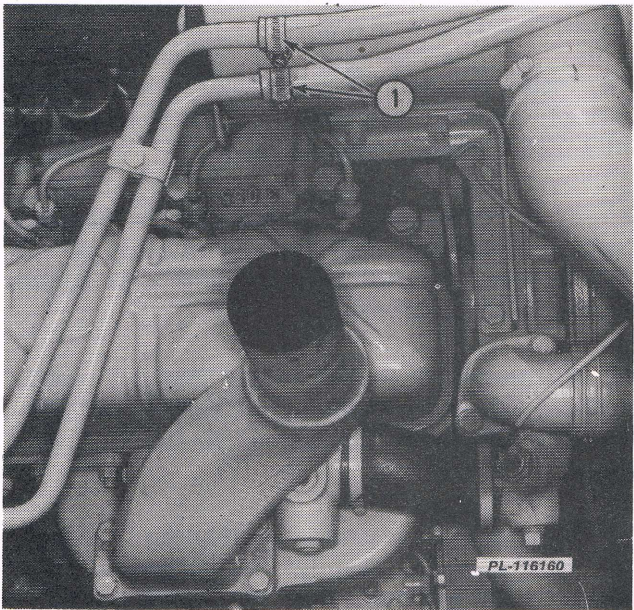

Fig. 2
12. Disconnect the two oil cooler tubes (1, Fig. 2). Plug all lines and fittings.